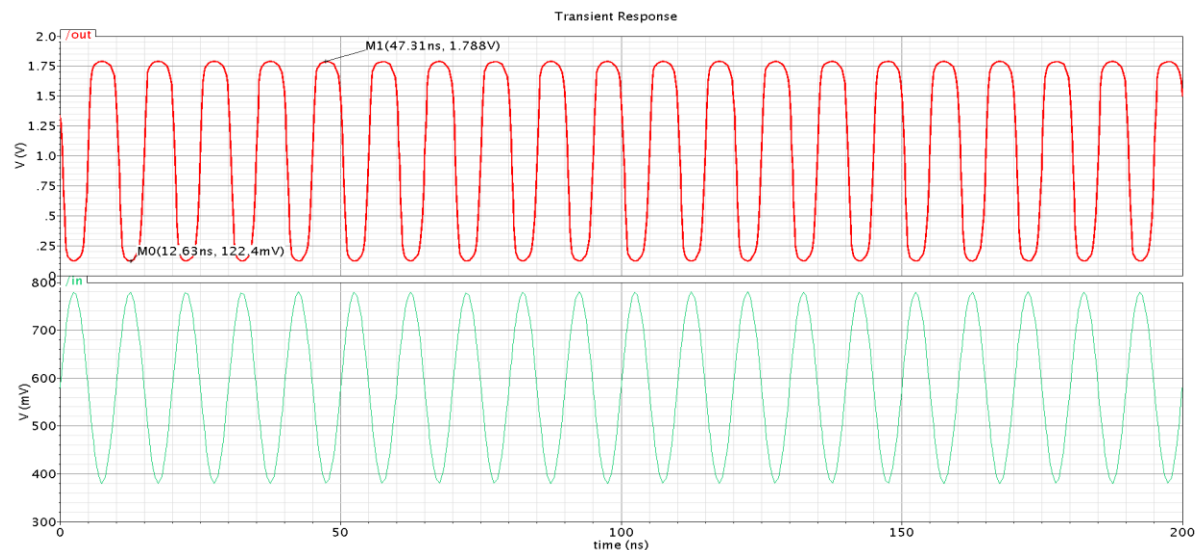

Fig.1.6. Output voltage swing of CS with active load
- In this case swing becomes somewhat poor compare to previous case. It is because theoretically $V_{\max} = V_{DD} - V_{ov} = 1.6 \text{ V}$ and $V_{\min} = 0.2 \text{ V}$. From figure 1.6 peak to peak swing is 1.65 V